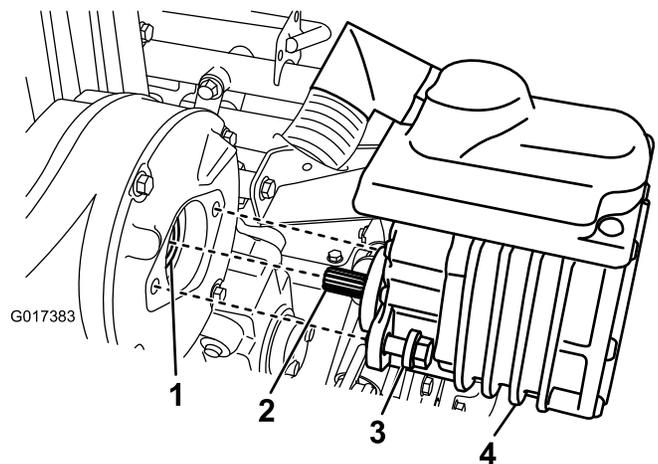

Figure 35
2. Remove the 2 bolts that secure the motor to the transmission case (Figure 35).
4. Add 1 to 2 pumps of grease from a grease gun to the female coupler in the transmission case (Figure 35).